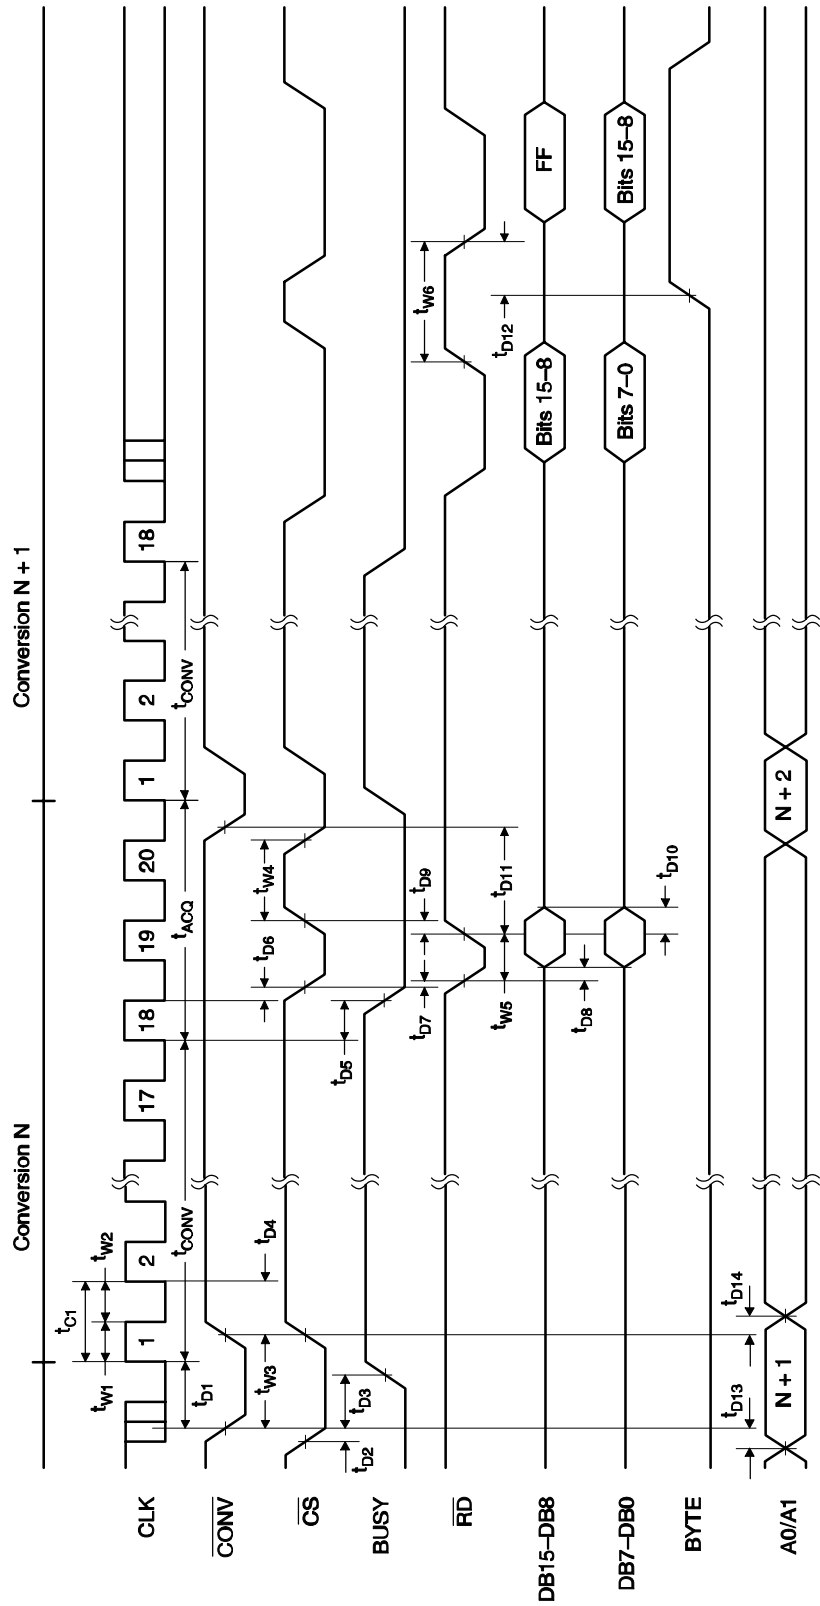

Figure 2. Timing Diagram
(1) All input signals are specified with rise and fall times of 5ns, $t_R = t_F = 5ns$ (10% to 90% of BV_{DD}), and timed from a voltage level of $(V_{IL} + V_{IH})/2$.
(2) See timing diagram in Figure 2.